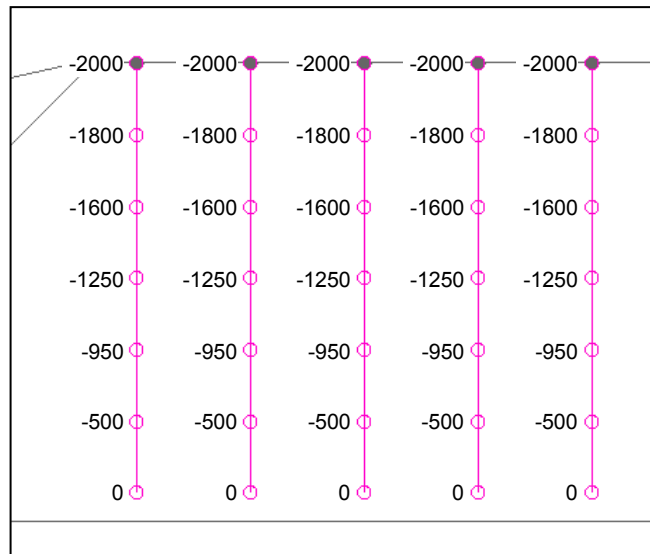

Figure 7 Longitudinal forces assigned to the reinforcement lines
7. Repeat the above steps to assign the *Long. Force* values shown in Figure 7 below.